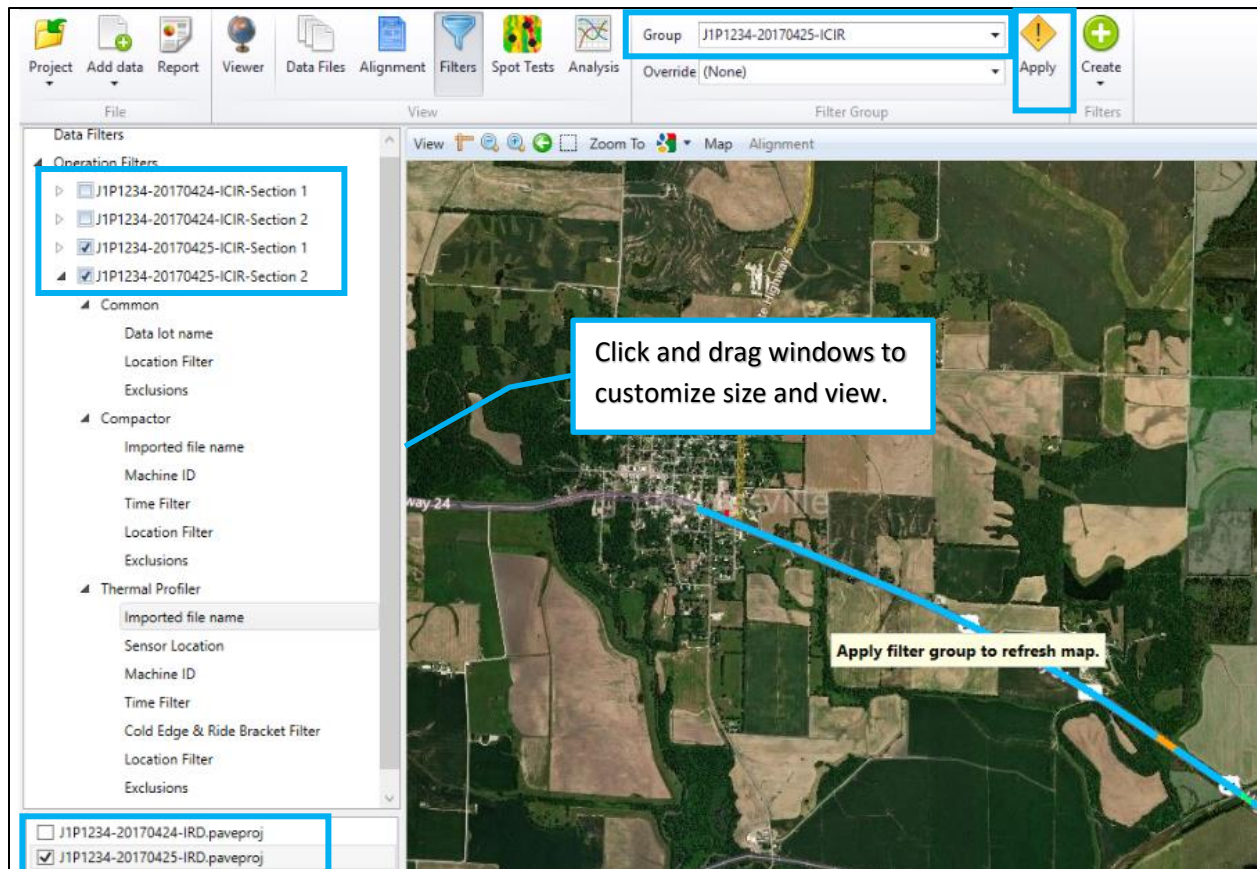

Figure 55. Operation filters are illustrated in the left filter panel.
Step 2. Create two operation filters per filter group for a total of four operation filters. The filter structure is shown in Figure 55.
Note the following observations from Figure 55: